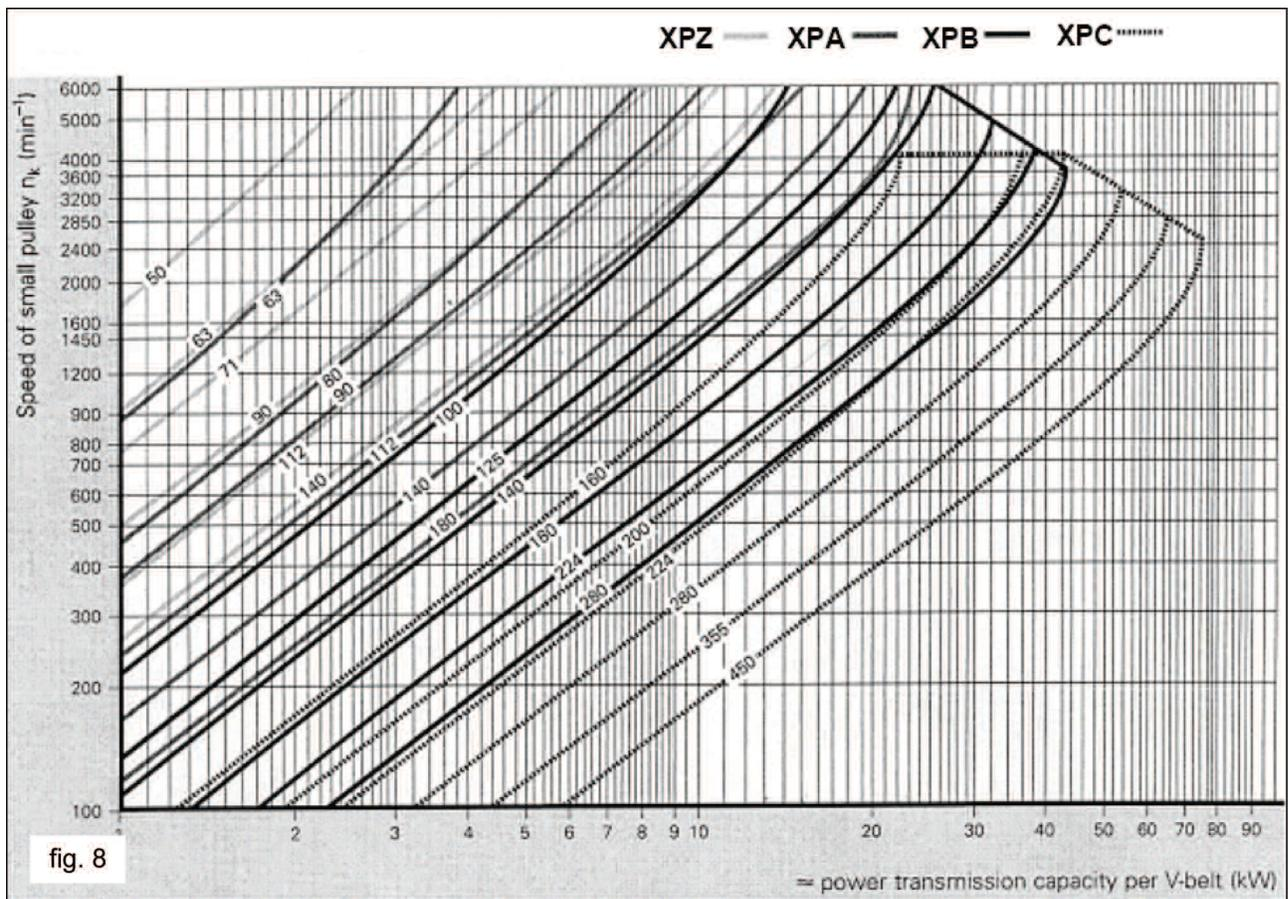
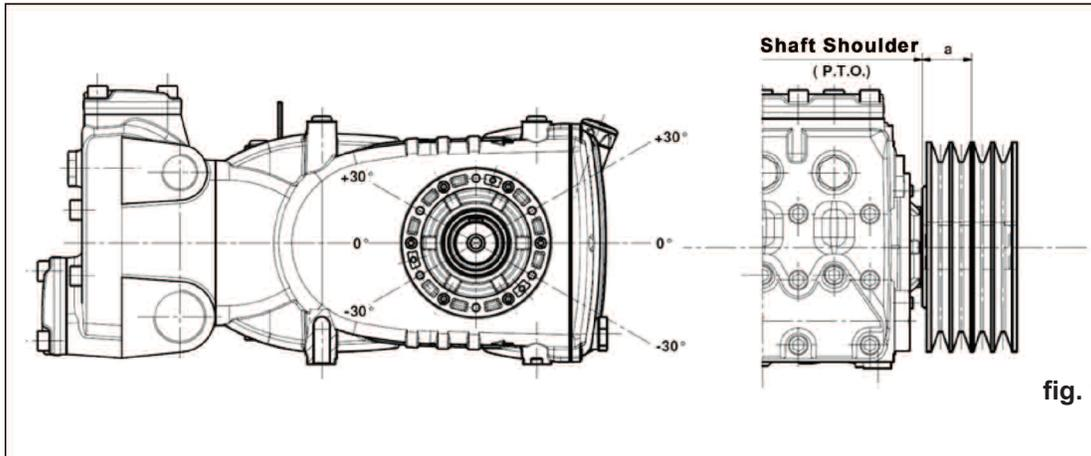

fig. 8
fig. 11
The pump may be driven by a v-belt system. For this pump model, we suggest using 4 XPB belts (16.5x13 cogged); for long durations, use the XPC profile; both the characteristics and the power transmission capacity of each belt can be verified on the diagram in **fig. 8**, in function of the number of rotations normally declared by the manufacturer. Minimum diameter of the driven pulley (on the pump shaft) ≥ 9.8 in. (250 mm). The radial load on the shaft must not be greater than 7500 N (value required for the definition of the lay-out). The transmission is considered adequate if this load is applied at a maximum distance of $a=40$ mm from the shaft shoulder (PTO) as indicated in fig. 11.
- b) Use high efficiency belts - for example **XPB** instead of **SPB**; this will allow to use a lower number of belts to transmit the same power, and consequently a minor distance of the resultant from the shaft shoulder (PTO), "a" in **fig. 11**.